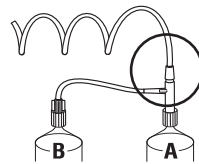

Figure 9 - 7: T-connector
NOTE: If using a connector tube with a T-connector, first attach the straight portion to the contrast (A) syringe and then the extension to the saline (B) syringe (Figure 9 - 7: T-connector).